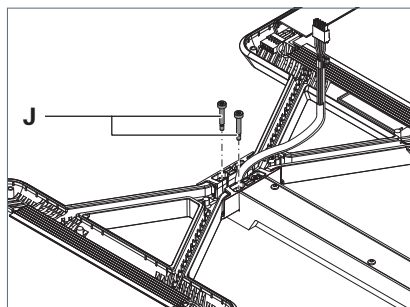

Fig. 15: Fixing luminaire head 2 in place.
4. Tighten the two adjusting screws **J** until the screw heads are flush with the adapter, see Fig. 15.